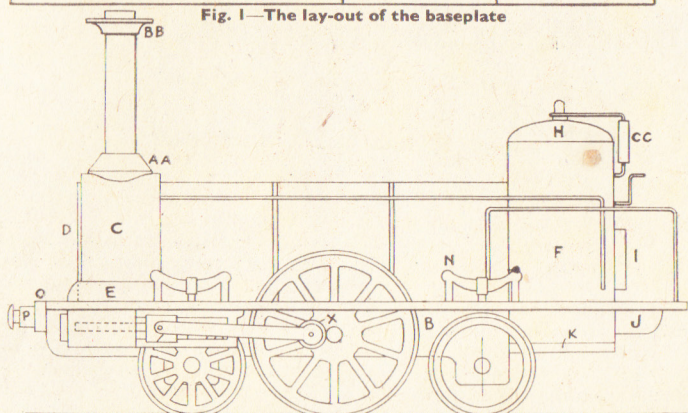

Fig. 4—Side elevation showing position of parts
To cover this framework and so form the circular boiler, we have a square of stoutish card $5\frac{1}{2}$ ins. long by about 7 ins. wide. Apply glue all round the edges of the three discs and then bend the card on to them, holding the latter tightly in place by slipping over two or three elastic bands until the glue has hardened. The completed boiler should now fit accurately and be glued between the two end uprights of the footplate and go into the opening of the latter for a distance of $\frac{1}{8}$ in. Four springs, as (N) on the pattern sheet, should next be cut from $\frac{3}{8}$ in. wood and glued to the footplate in the positions given on the plan Fig. 1, and side view Fig. 4.
A glance at Fig. 4 gives the general arrangement of the fittings.